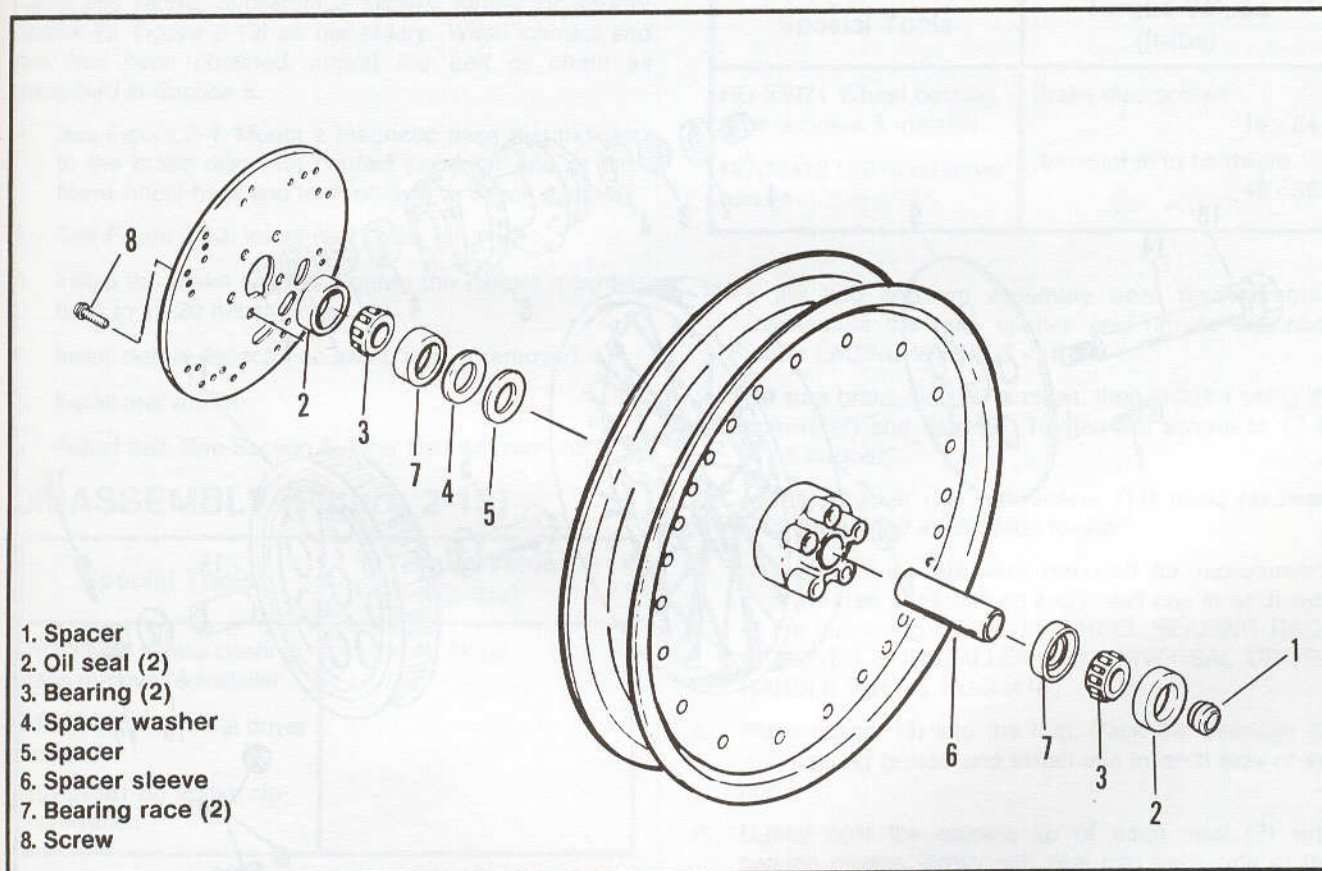

Figure 2-12. Disc Front Wheel - 1992
5. See Figure 2-12. If end play does not fall between 0.002 and 0.006 in., substitute a thicker spacer (5) for more end play or a thinner spacer for less end play. See following chart for spacer sizes and part numbers.
DISASSEMBLY (Figure 2-12)
CLEANING, INSPECTION AND REPAIR (Figure 2-12)
ASSEMBLY (Figure 2-12)